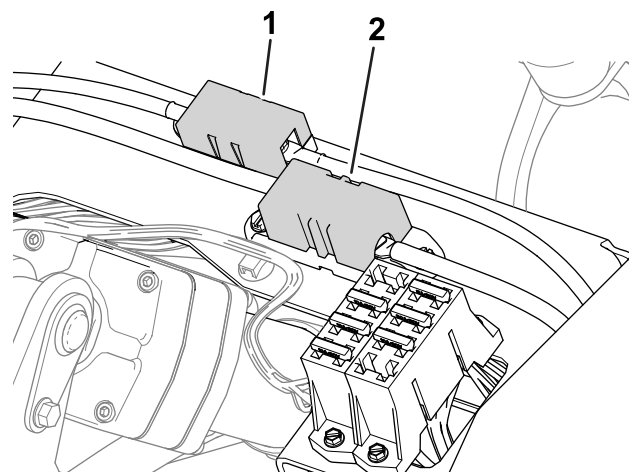

Figure 60
- The fuses for the generator (100 A) and the right wheel motor (60 A) are located under the seat (Figure 60).